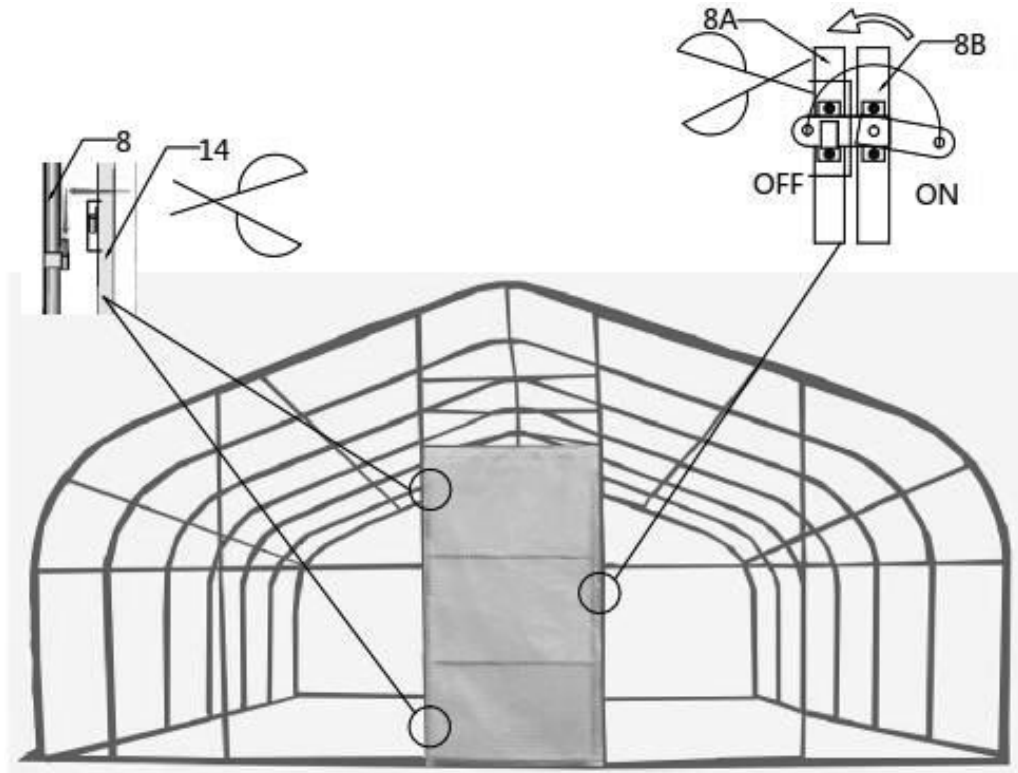

Figure 11
- Sliding door installation. The assembled door cover cloth (#20) of the sliding door cover is fixed on the door frame of the front truss through the hinge. (refer to figure 11)